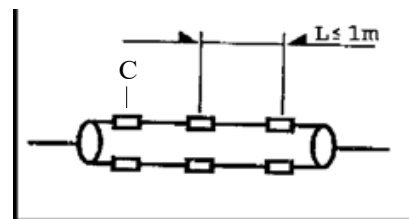

Figure 4
- Mounting clips and suction cups should be evenly spaced with a maximum 1 meter spacing. (Fig. 4)